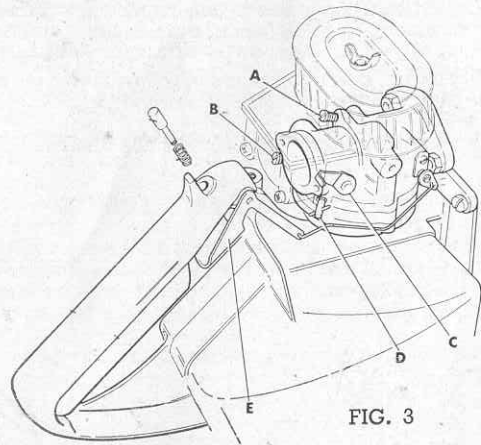

FIG. 3
**Carburettor Adjustment:** Sometimes the carburettor inadvertently gets badly out of adjustment, and it is wise to start again from the basic settings. As shown (Figure 3) there are three adjustments: